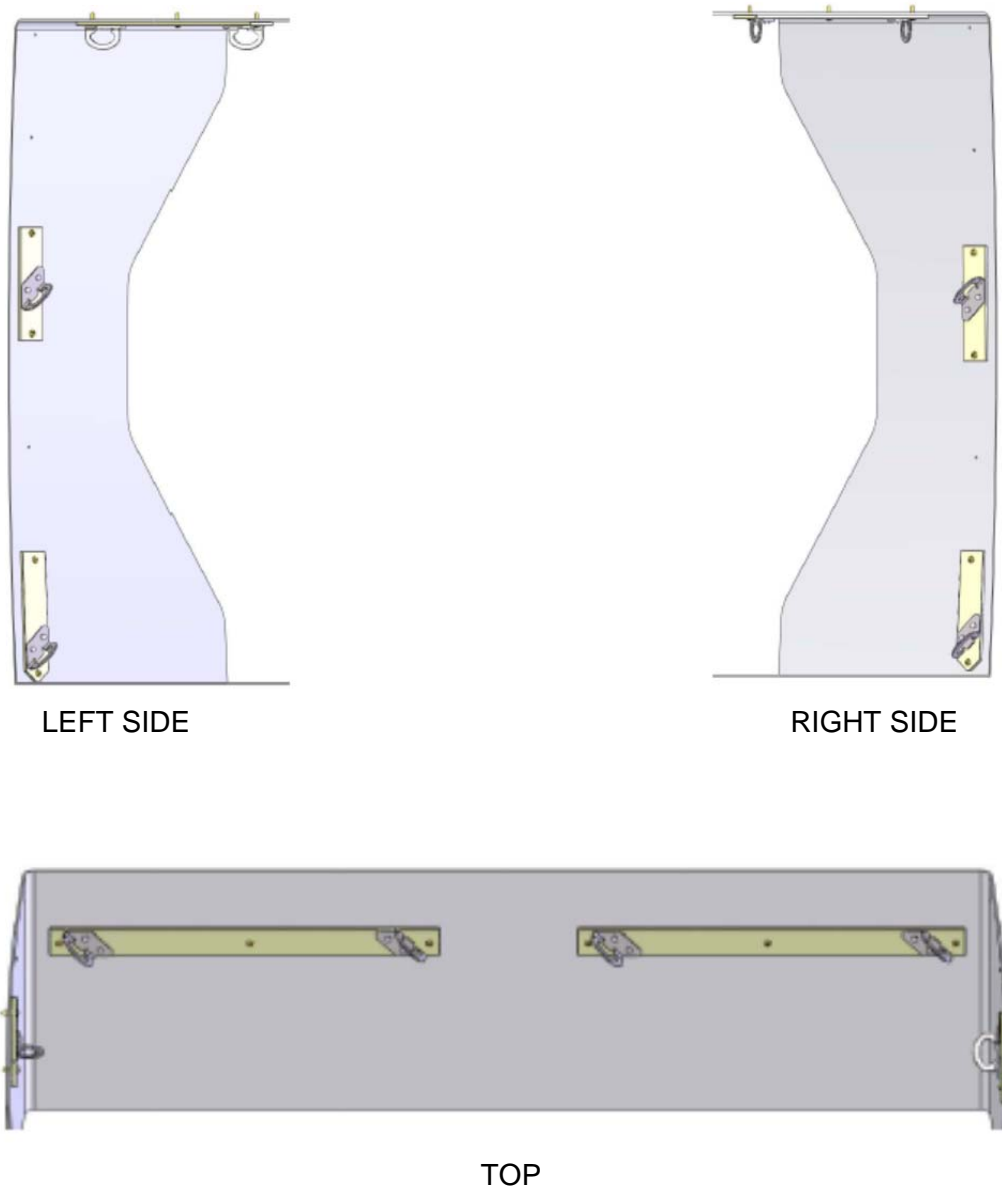

Figure 7.10.1
7.10 Starting with the lower right hand (L RH) position, inspect all installed assemblies for the proper bracket orientation and screw torque on all fasteners. See Figure 7.10.1.